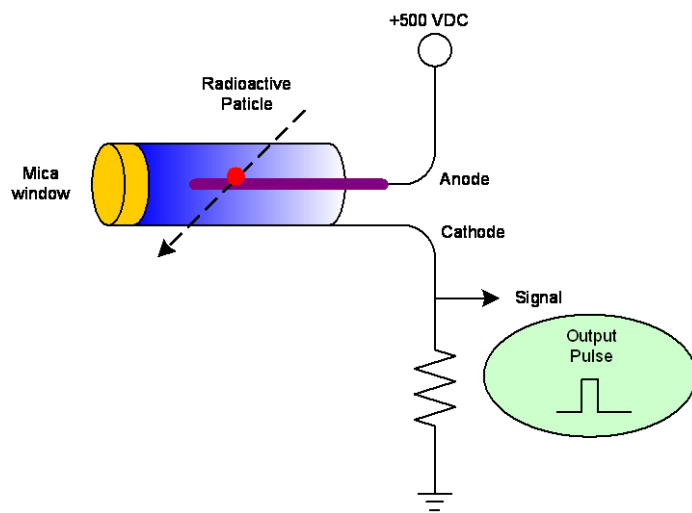

Figure 3. Cross-section and function of typical Geiger-Müller Tube
Geiger-Müller tubes are simple devices that detect and measure radioactivity. The original design by H. Geiger and E.W. Müller in 1928 hasn't change very much. The basic sensor functioning remain the same. A cut away drawing of a typical Geiger-Müller (GM) Tube is shown in Figure 3.